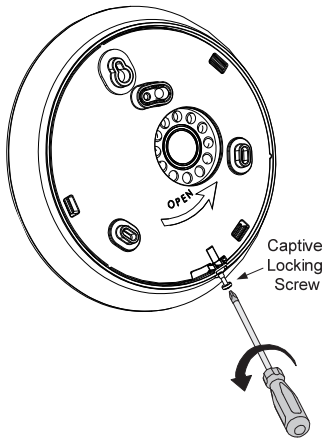

Fig. 1
1. Release the mounting bracket captive locking screw (Fig 1).